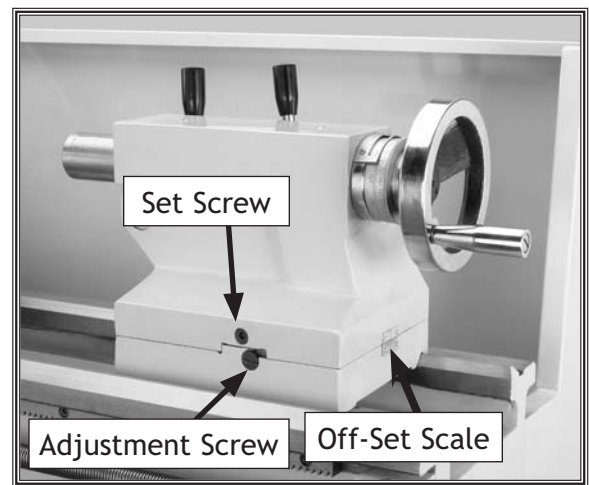

Figure 37. Off-set scale.
3. Alternately loosen and tighten the two side adjustment screws until desired offset is indicated on the scale (see **Figure 37**).